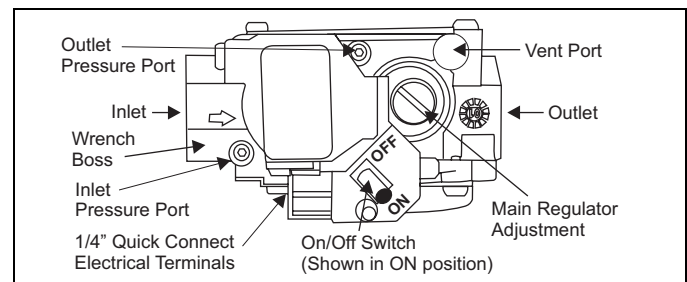

FIGURE 42: Gas Valve
1. Refer to Figure 42 for location of pressure regulator adjustment cap and adjustment screw on main gas valve.